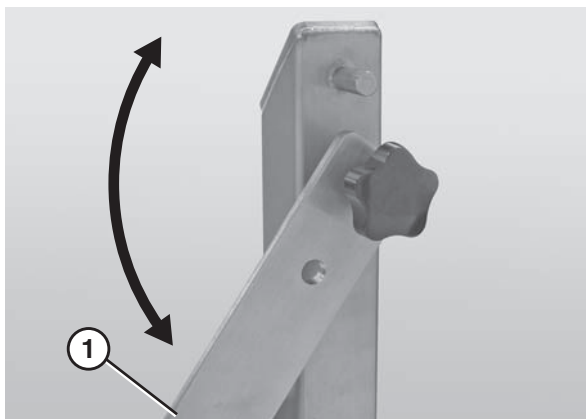

Figure 49
2. Lower the quick release arm (**Figure 49, item 1**) on one of the stands. *Note: if the conveyor is not equipped with Quick Release (QR Type) stands, it will be necessary to remove the entire stand.* For detailed instructions, refer to the “Sanitary Support Stands Installation, Maintenance and Parts Manual.”